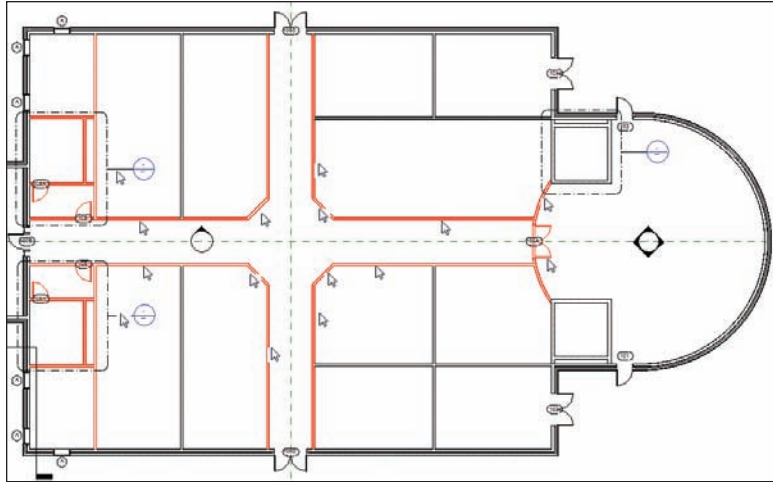

FIGURE 4.49 Selecting the items to be copied to the clipboard
2. Select the walls and doors that define both bathrooms, as shown in Figure 4.49. Also, select the corridor walls and the radial corridor wall at the east end of the building. Be sure to select the internal doors as well (see Figure 4.49).